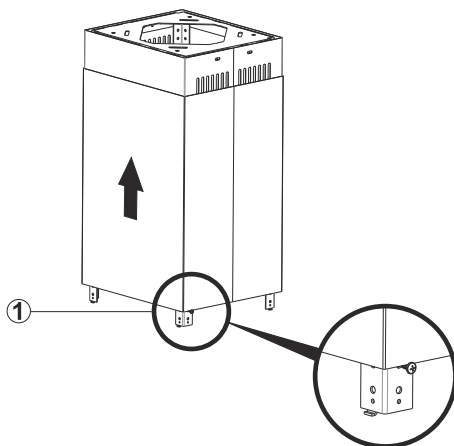

Fig. 13
3. ➔ Match sheet metal flues of the product to product hanging bars (Fig. 13).
Install 3.5 x 9.5 screw to product hanging bar and leave sheet metal flues on the screw for sheet metal flues to remain fixed on hanging bars before installation (Fig. 13).